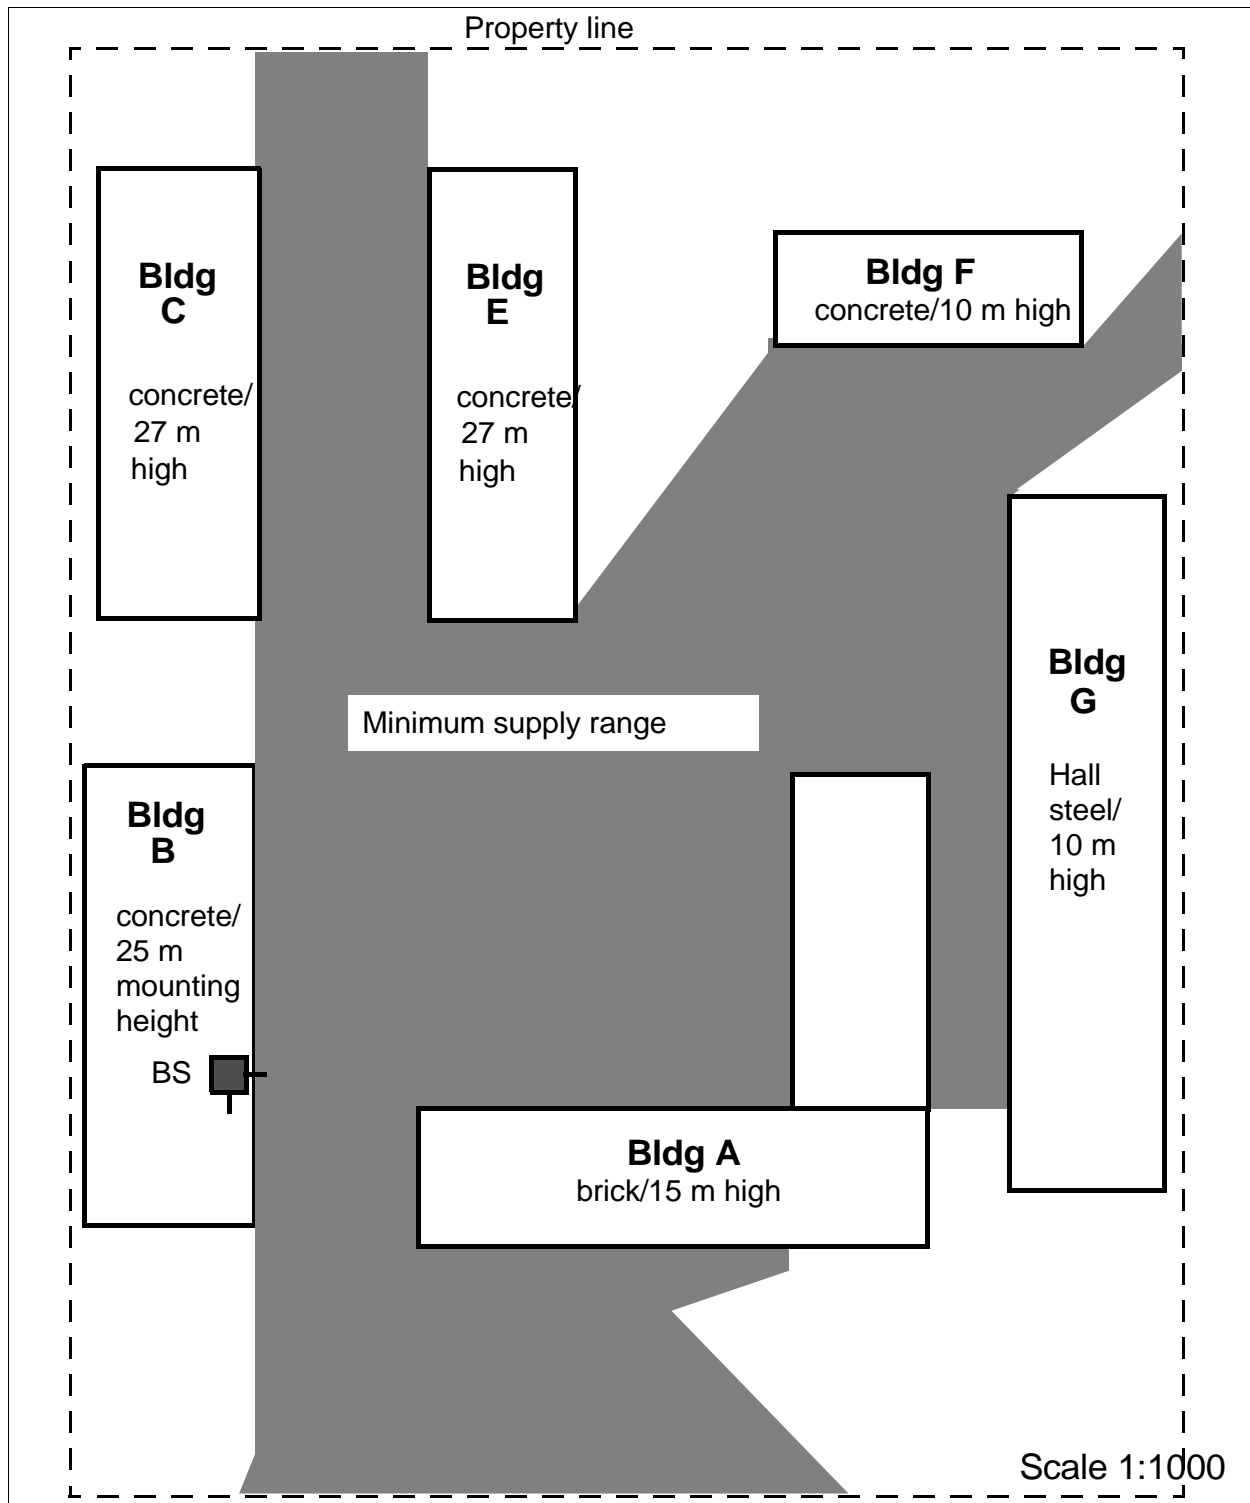

Figure 15 Base station distribution for coverage of an outdoor area
Example: Planning an outdoor area (Figure 15)
- Site plan, see Figure 15